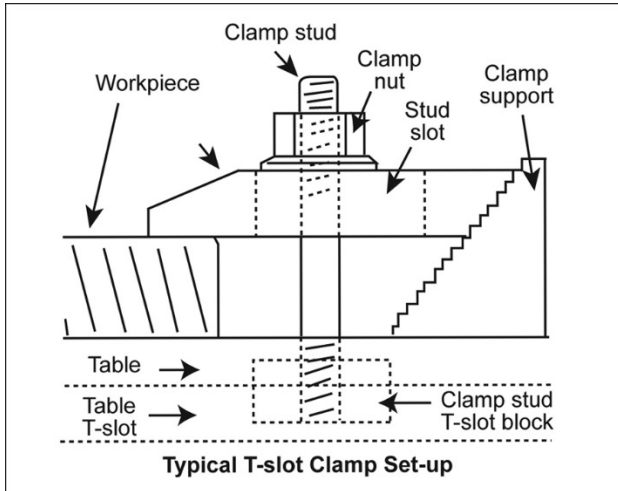

Figure 8-11
3. Clamp workpiece using T-slot clamps, studs, and step blocks as required (Figure 8-11).